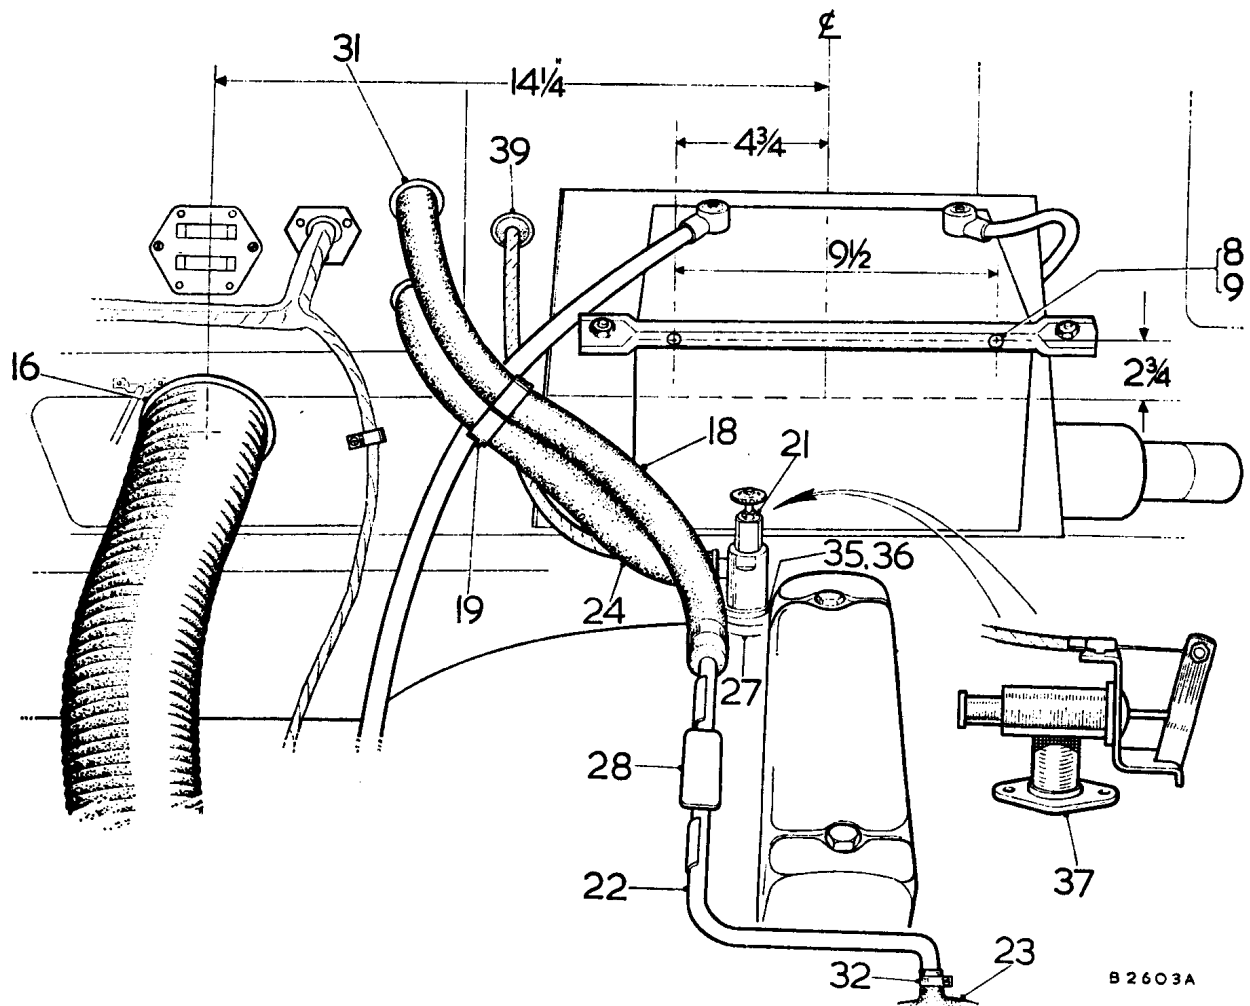

Fig. SS.5
Remove the blanking plate from the rear of the cylinder head and replace it by the adaptor plate (27) and heater valve (21) using shims (35) and (36) to ensure that the valve outlet is correctly aligned (see Fig. SS.5).